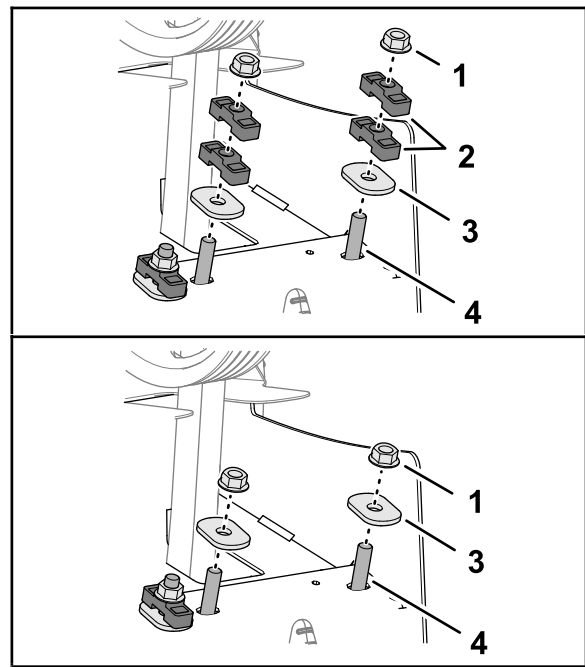

Figure 123
- Secure the dampener shaft and spacers to the rear frame with the hardened oval washers and locknuts (Figure 123).